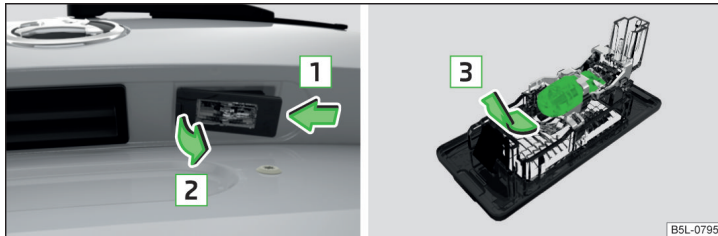

Fig. 211 Remove the number plate light/replace the bulb
- › Push in the lamp in the direction of the arrow **1** » Fig. 211.